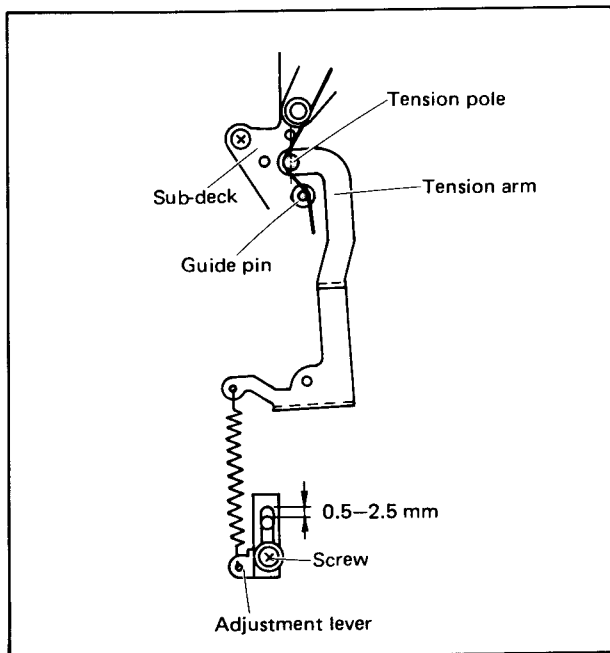

Fig. 4-33
7. Figure 4-33 shows the state after completing the adjustment.